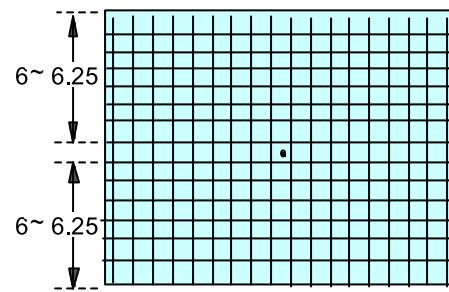

Fig.2-6 NTSC CROSS HATCH
2. Use the VOLUME + or - key on the remote controller to adjust the number of upper and lower boxes within the range specified in SPEC. (Fig. 2-6)